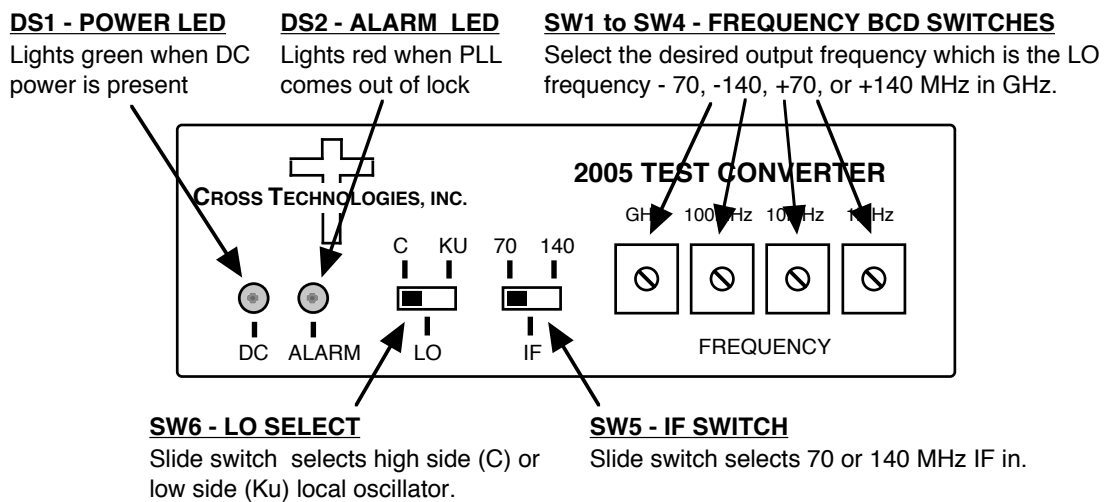

FIGURE 2.1 2005-10 Front Panel Controls and Indicators
2.2 Front Panel Controls/Indicators - Figure 2.1 shows front panel controls and indicators for the 2005-10.
2. Select either C or KU band (SW6) and either 70 or 140 MHz IF (SW5) using the front panel switches (Figure 2.1).
6. Set BCD switches, SW1 to SW4, to the desired frequency (Figure 2.1).
7. Be sure DS1 (green, DC Power) is on and DS2 (red, Alarm) is off (Figure 2.1).